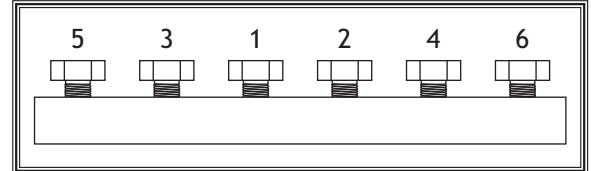

**Figure 25.** Jack screw access holes in cutterhead.
7. **Jack Screws:** Insert hex wrench into access holes in cutterhead (see **Figure 25**), and rotate jack screws to raise or lower knife until it barely touches center pad of knife-setting jig with all legs of jig still firmly on cutterhead, then snug gib bolts enough to hold knife in place without fully tightening gib bolts (see **Figure 26**).
**Springs:** Insert hex wrench into access holes in cutterhead (see **Figure 25**), and remove jack screws. Push down on knife jig until all legs of jig are firmly on cutterhead and knife just touches center pad of jig, then tighten gib bolts enough to hold knife in place without fully tightening gib bolts (see **Figure 26**).